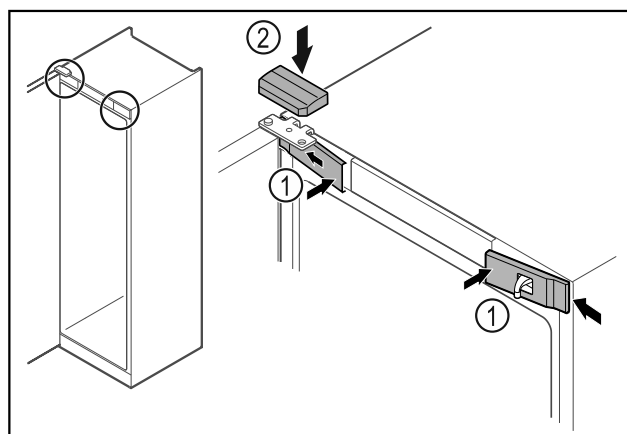

Fig. 45
- ▶ Hook in the front covers Fig. 45 (1) on the side and snap them into place.
- ▶ Snap on the top cover Fig. 45 (2) from above.